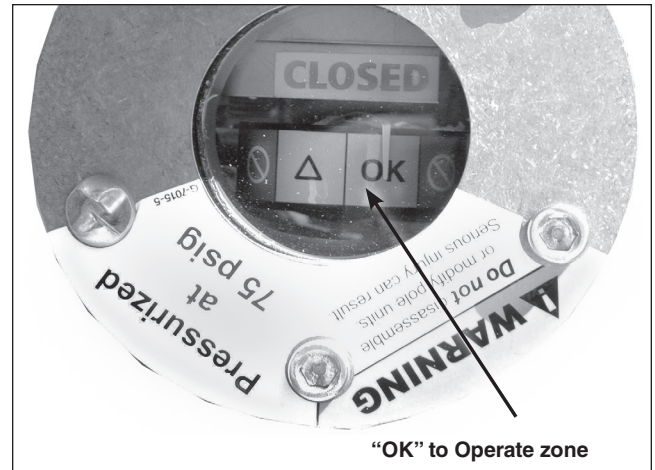

Figure 28. Check that the gas-pressure indicator on each pole-unit is in the “OK” to Operate zone.
- That the gas-pressure indicator is in the white “OK” to Operate zone. See Figure 28. If the gas-pressure indicator is in either the yellow or red zones, the gas density in the pole-unit has dropped. Refer to the instructions on page 6 for “Understanding the Gas-Pressure Indicator.”